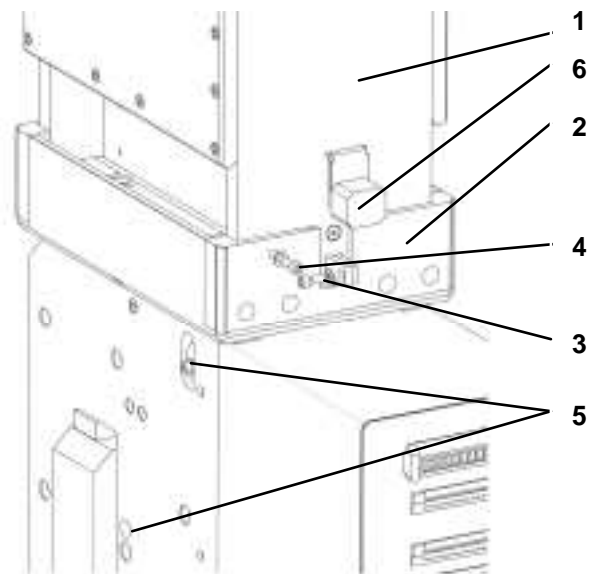

Fig. 41 Arc chute and arc runners fixing
- [Fig. 41]. Take off isolation caps (6). Loosen the clamping screws (3) and (4), using SW5 hexagon wrench and take off the arc chute (1) from the adapter (2).
- [Fig. 41]. Put arc chute (1) into adapter (2).
- [Fig. 41]. Tighten front and backside connections of the arc runners (3), including lock washer. Use a torque of 10 Nm [88 in-lbs].
- [Fig. 41]. Tighten front- and backside of the arc chute connections (4), including flat washers. Use a torque of 5 Nm [44 in-lbs].
- [Fig. 41]. Put on isolation caps (6).
- [Fig. 41]. Loosen the clamping screws (3) and (4), using SW5 hexagon wrench and take off the arc chute (1) from the adapter (2).
- [Fig. 41]. Tighten front and backside connections of the arc runners (3), including lock washer; use 10 Nm [88 in-lbs].
- [Fig. 41]. Tighten front and backside of the arc chute connections (4), including flat washers; use 5 Nm [44 in-lbs]. Put on isolation caps (6).
- [Fig. 41]. Tighten front and backside of the arc runner screw connections (3) and (5). Use torque of 10 Nm [88 in-lbs].
- [Fig. 41]. Tighten arc chute connections (4). Use torque of 5 Nm [44 in-lbs].
- [Fig. 41]. The arc runner's screw connections (3) must be secured by means of lock washer.
- [Fig. 41]. The arc chute's screw connections (4) must be secured by means of flat washer.